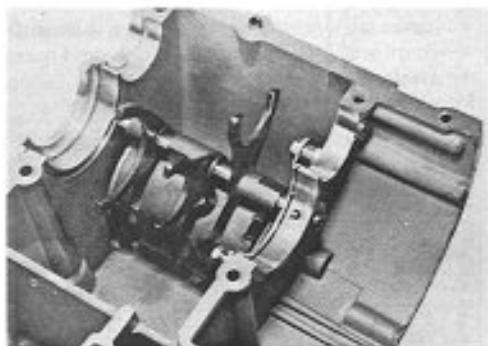

Fig. 170
- Fit the gearshift forks positioning them as shown in figure 170.